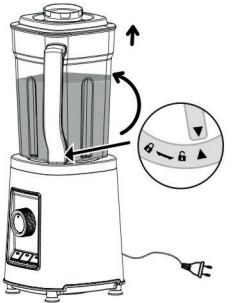

Fig 7
- Switch off the blender once the mixing process is complete and turn the function selector (14) to OFF. Unplug the appliance. Fig 7.